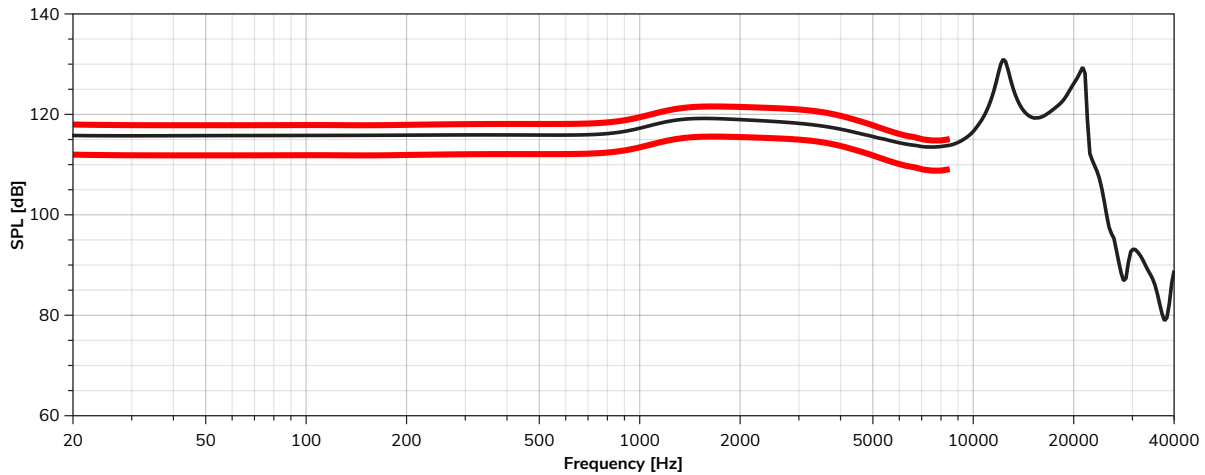

Figure 7: SPL @ 15 V_p drive*
*Red lines in figure 7 indicate the limits. Test limits are used to establish incoming inspection acceptance / rejection criteria, correlation of test equipment with USound is also required for elimination of equipment and test method variation.